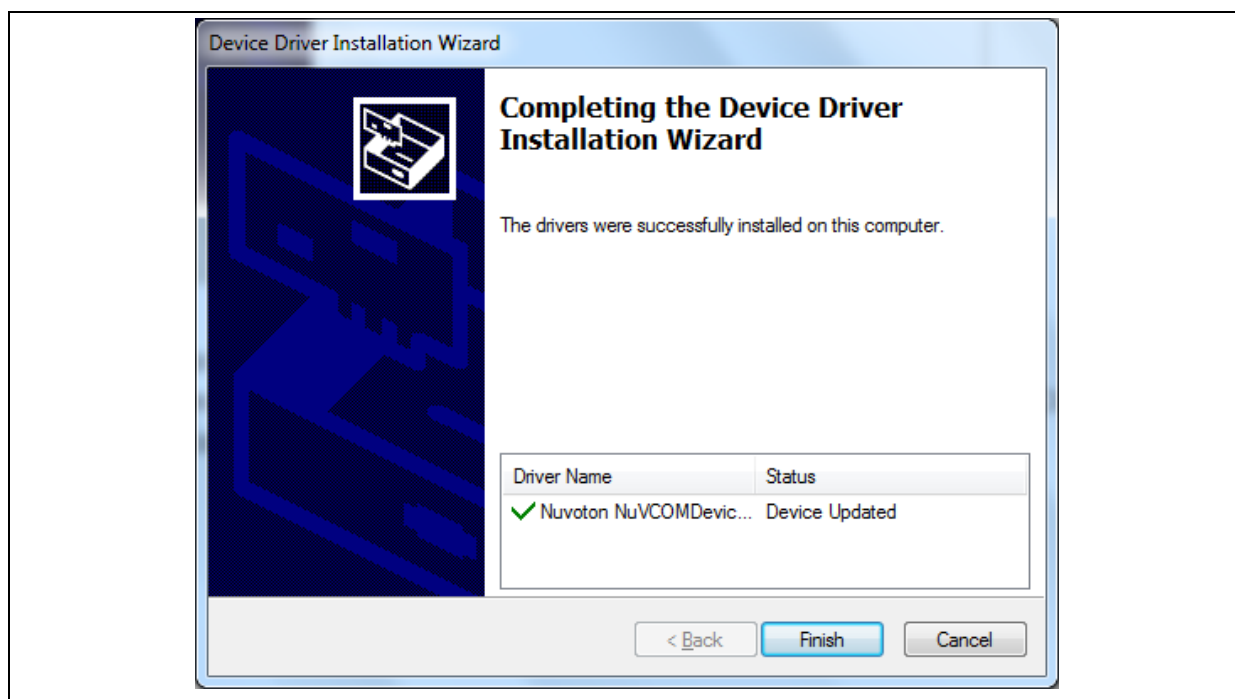

Figure 2-6 WinUSB4NuVCOM Driver Setup (6)
Step 6: Press "Finish" to complete the installation of the USB VCOM driver (Figure 2-6).